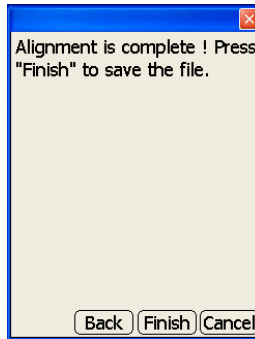

Figure 2-28. Alignment Complete
20. On the *alignment complete* dialog box, press **Finish** to save the information (Figure 2-28).